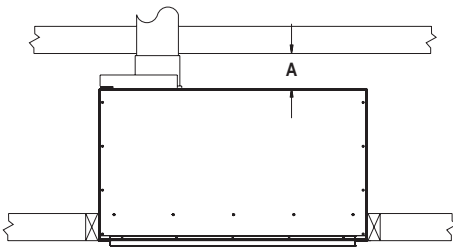

Figure 6
2. Provide adequate clearances around the product for servicing and ensure there are no obstructions to the combustion air intake situated at the back of the heater. Refer to Page 14, Figures 6 through 10.
Note: On Single Wall flue pipe installations (imitation zero clearance fireplace) a minimum of 2" (50.8 cm) clearance must be provided at the rear of the heater to enable the heater to get sufficient combustion air to the air inlet located at the rear of heater. Refer to installation instructions on page 14, Figures 6 through 10.